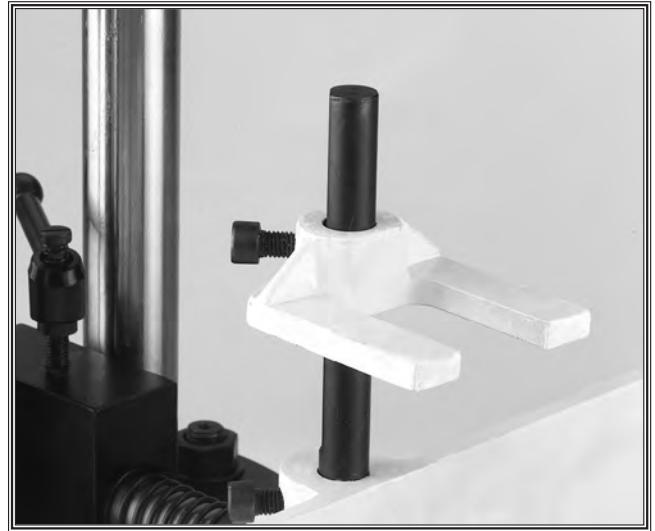
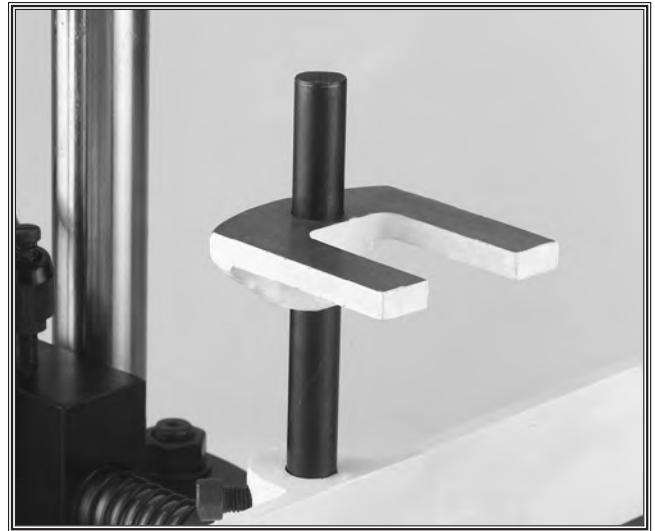

Figure 17. Bracket in the lowest position.
Figure 18. Bracket in the highest position.
3. The hold down bracket may be placed on the support rod in two positions. If placed on the support rod as in **Figure 17**, the bracket will hold down a workpiece slightly taller than the fence. When placed in the position shown in **Figure 18**, the bracket will hold down a workpiece that measures $\frac{3}{8}$ " less than the height of the support rod.